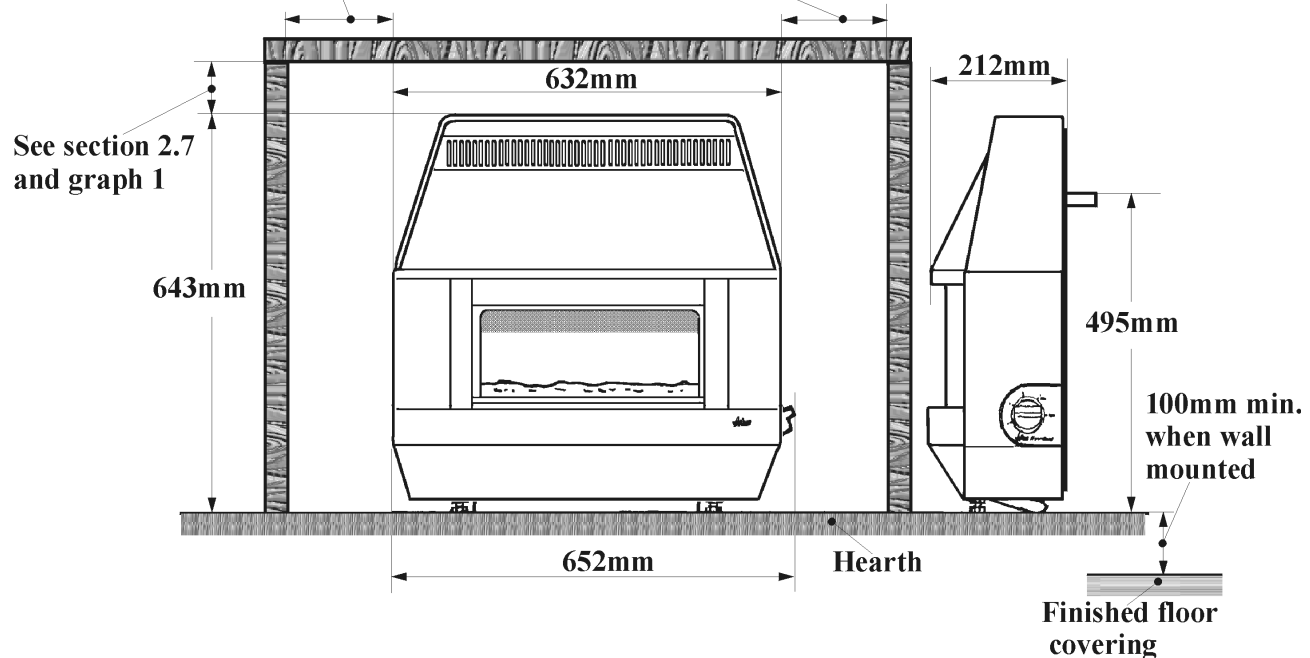

Figure 1 Dimensions & clearances
See figure 1.
2.8. The minimum height required from the top surface of the appliance case to the underside of any shelf made from wood or other combustible materials (see figure 1) is shown in graph 1.
The bottom of the appliance must be at least 100mm above the finished floor covering. See figure 1. This requires the top of the opening to be at least 650mm above the finished floor covering. Any opening visible below the appliance may be closed in but the depth of the catchment space within the wall opening must be as shown in figure 2.